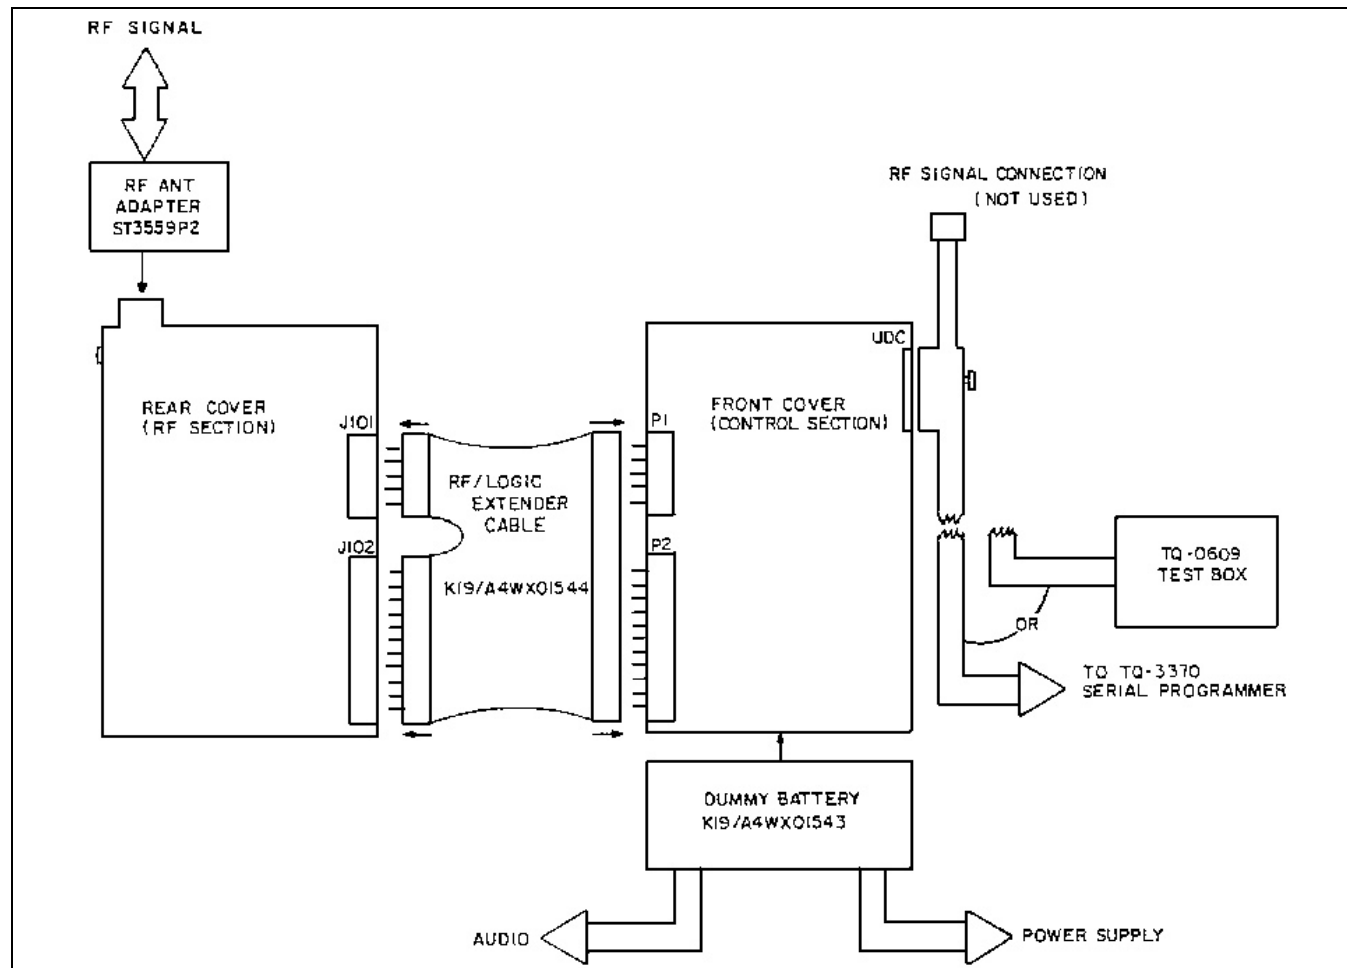

Figure 6 - Test Setup
1. Separate the Front and Rear Cover Assemblies and connect the RF/Logic Extender cable between the RF Board and the Control Board. See Figure 6.